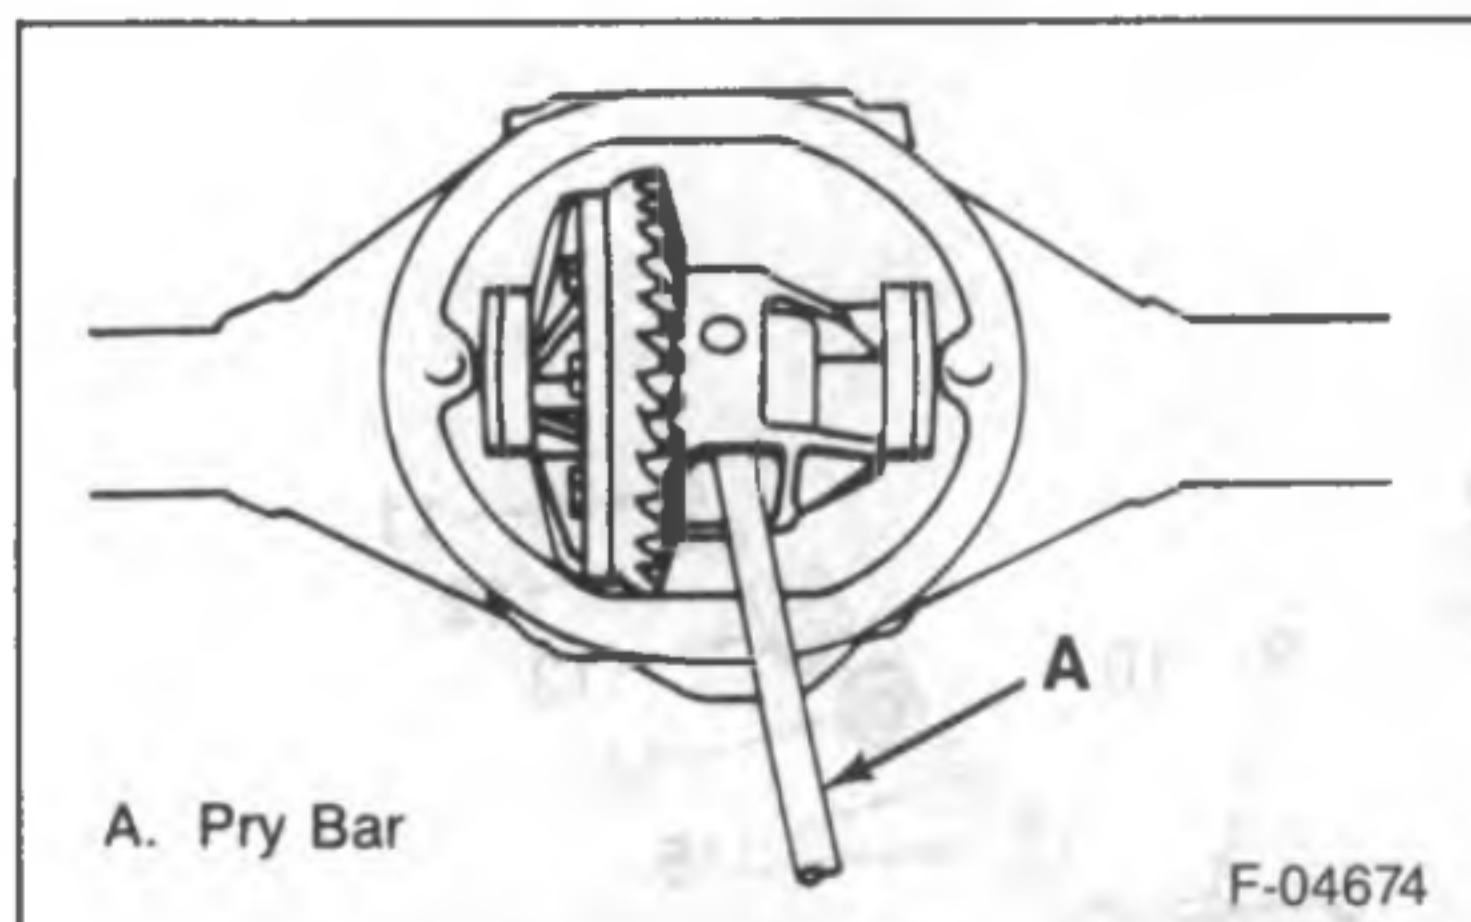
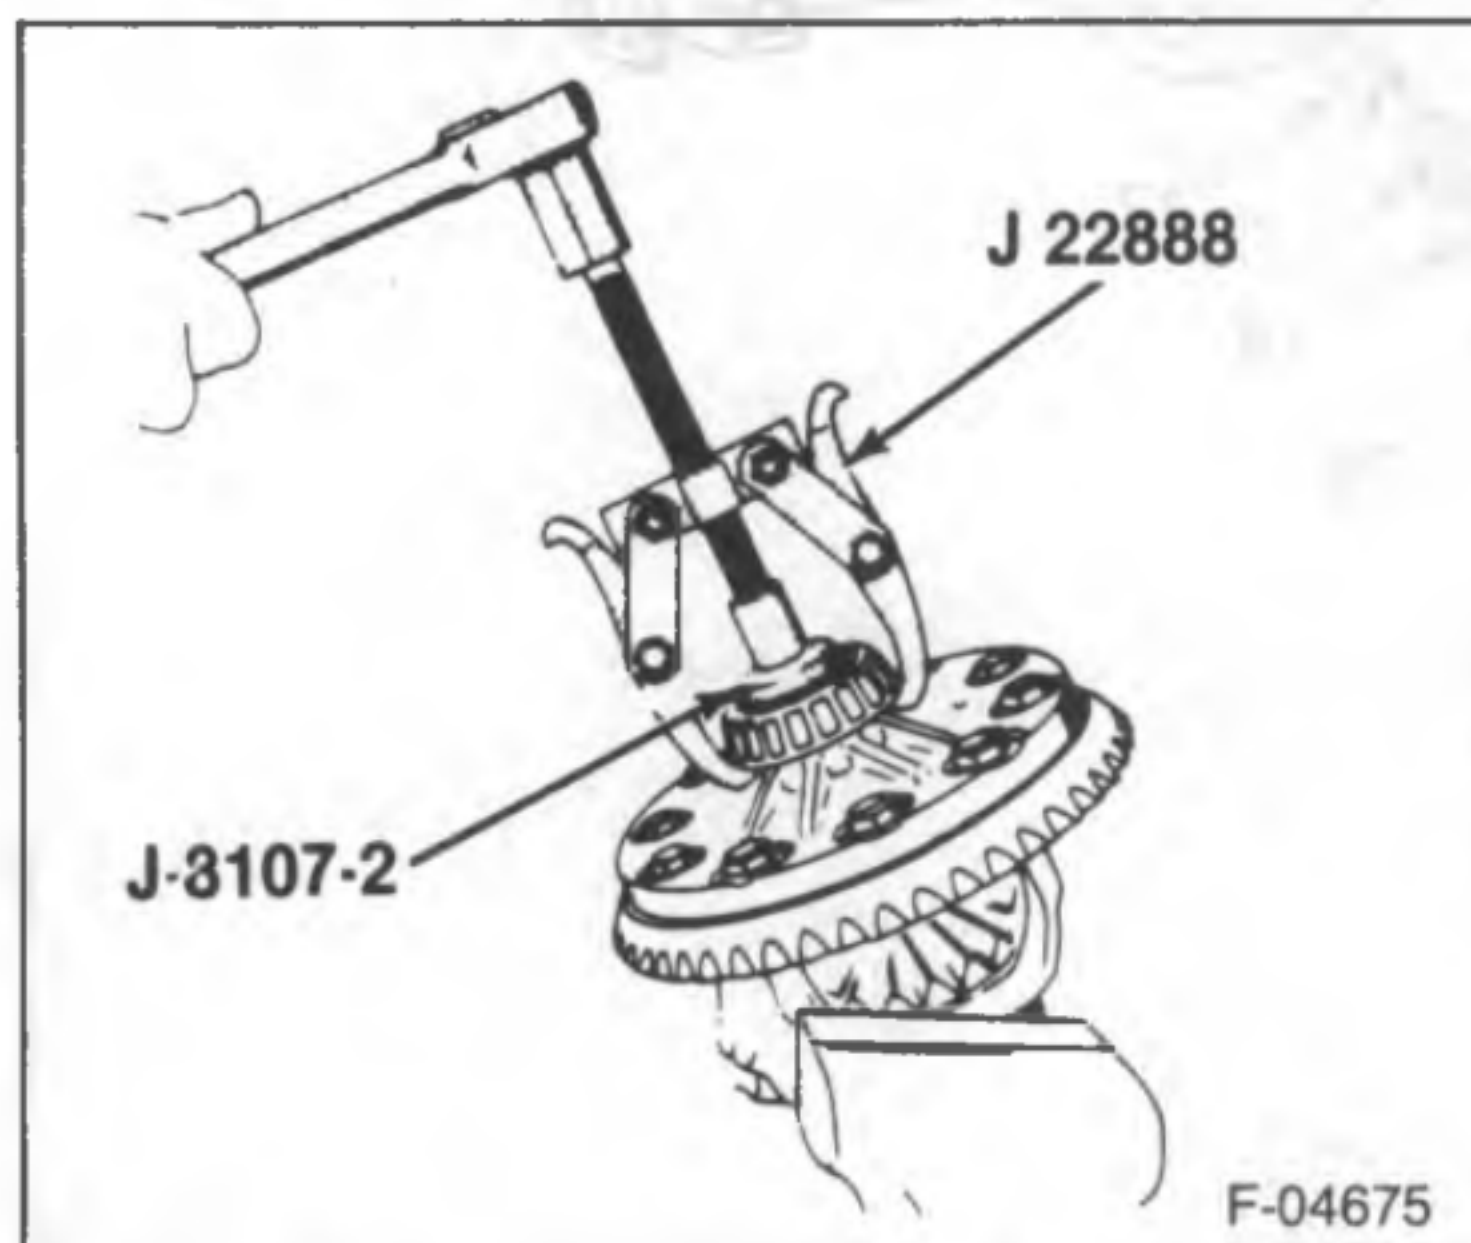

Figure 2—Removing the Differential Case
Figure 3—Removing Differential Side Bearings
- 9. Differential carrier (24).
- Pry the case from the axle housing at the differential "window" (figure 2).
- 10. Bearing outer races (22), shims (21), and spacers (23).
- 11. Differential side bearings using J 8107-2 and J 22888 (figure 3).
- 12. Ring gear bolts (25).